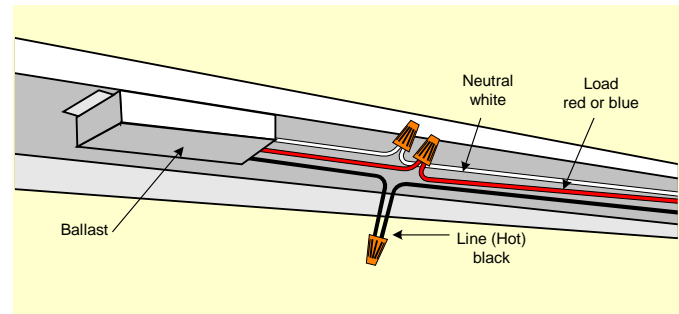

Figure 1: Locate the Line voltage (black) wire
2. Open the device's enclosure and locate the black wire which supplies line (hot) voltage to the device (Figure 1).